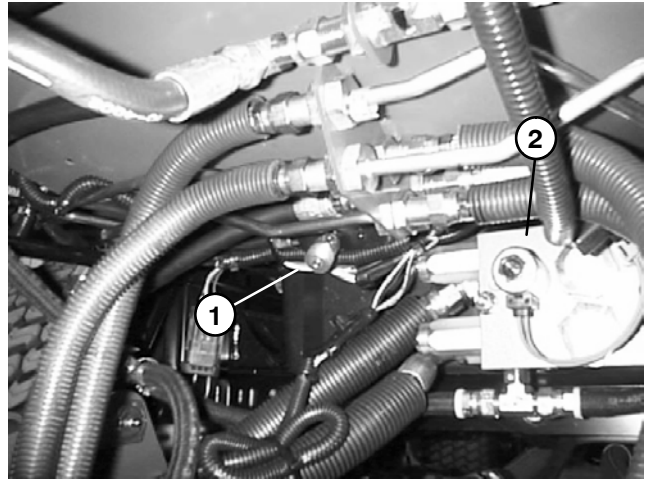

Figure 42
2. Locate valve under front of machine (Fig. 42).